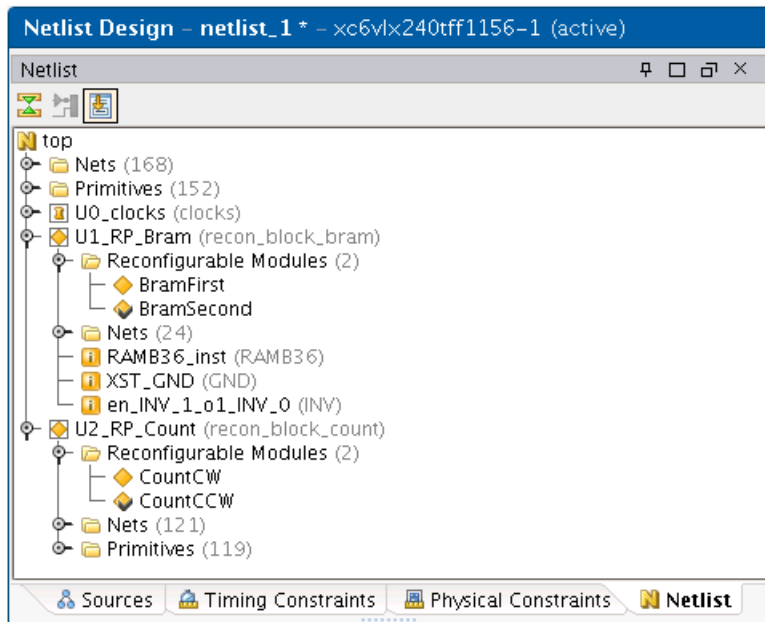

Figure 9: Netlist Window After Adding Reconfigurable Modules
At this point one additional Reconfigurable Module (RM) has been added to each Reconfigurable Partition (RP), and the netlist window should look similar to Figure 9 below. You will notice that under each RP there are Nets and Primitives listed. These nets and primitives are specific to the RM that is currently active, and are signified by the yellow diamond with a checkmark . In Figure 9 the active modules are BramSecond and CountCCW. You can change which RM is active by right-clicking on it and selecting **Set as Active Reconfigurable Module**.